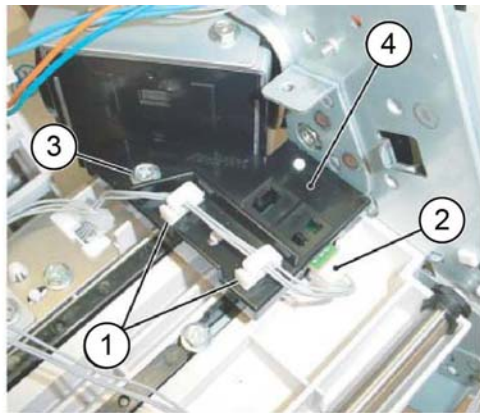

Figure 3 Rear tamper home sensor assy removal
8. Remove the rear tamper home sensor assembly, Figure 3:
- a. Release the harness from both clamps (1).
- b. Remove the self-tapping screw (2).
- c. Move the rear tamper home sensor assembly (3) in order to disconnect the connector.